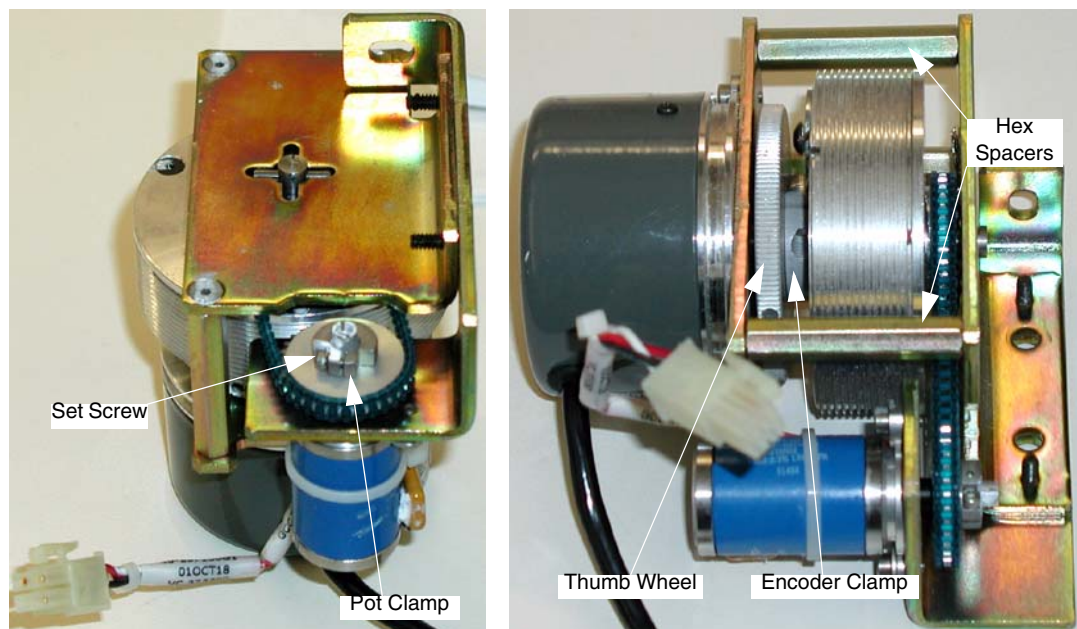

Figure 12-6 Replacement Encoder Assembly Prep.
- 1.) Refer to Figure 12-6. Loosen the replacement encoder potentiometer's clamp and the encoder's clamp.